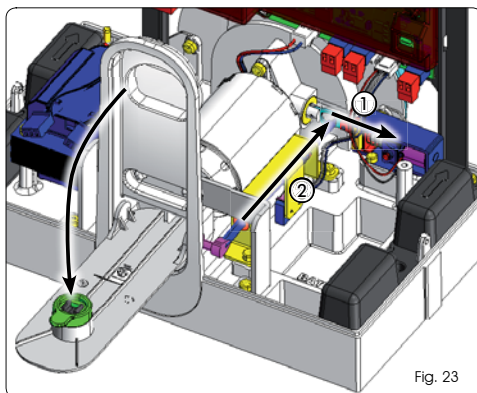

Fig. 23
👉 Lowering the release lever, both the motor lock, which is retracted (Fig. 23 re. ①), and the safety microswitch forcing the automation to STOP (Fig. 23 re. ②) are operated.